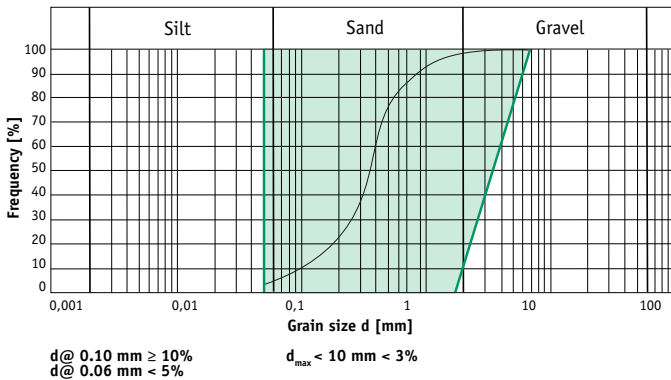

Fig. 5 Recommended grain size distribution for the sand fill material for GSC Secutex® Soft Rock
12.2 A recommended grain size distribution for the fill material of the geotextile container Secutex® Soft Rock is shown in Figure 5.